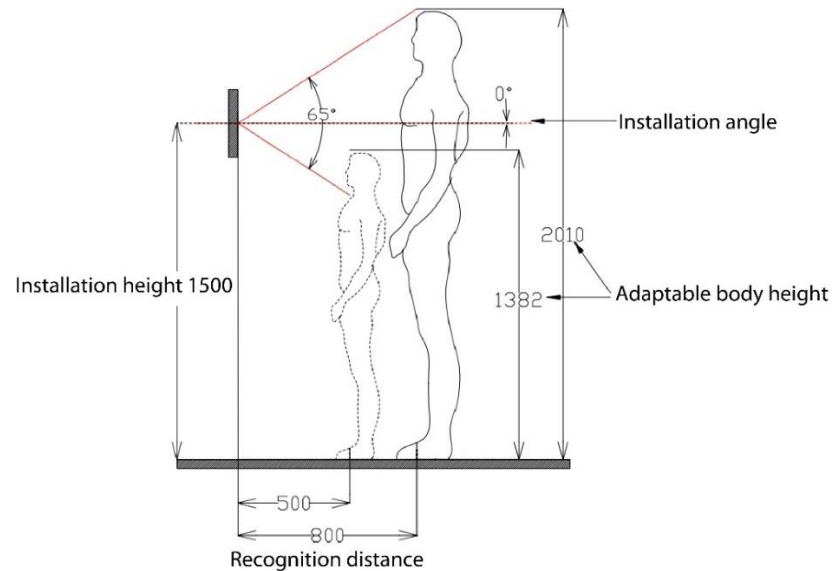

Figure 9.3 Horizontal installation (Unit: mm)
In horizontal installation mode, the installation angle (β) is set to 0° , and the installation height (H) is set to 1.5 m. If a person can be recognized at a distance of 0.5 m to 0.8 m, the module can adapt to individuals with a height range between 1.38 m and 2.0 m, as shown in Figure 9.3.